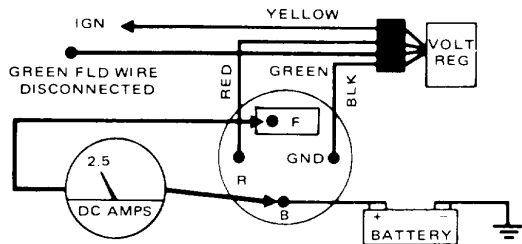

FIG. 5. Field Draw Test - Ignition Off
**TEST 3 - FIELD DRAW TEST - IGNITION OFF (Refer to Figure 5)**
To determine if the armature windings are grounded make the connections as shown in Figure 5. If the voltmeter indicates any voltage, the windings are grounded.